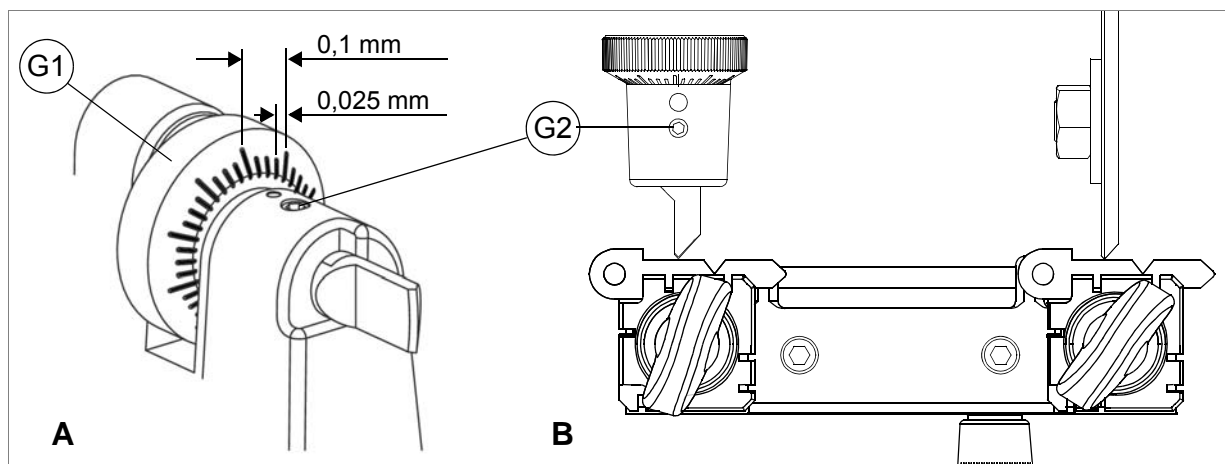
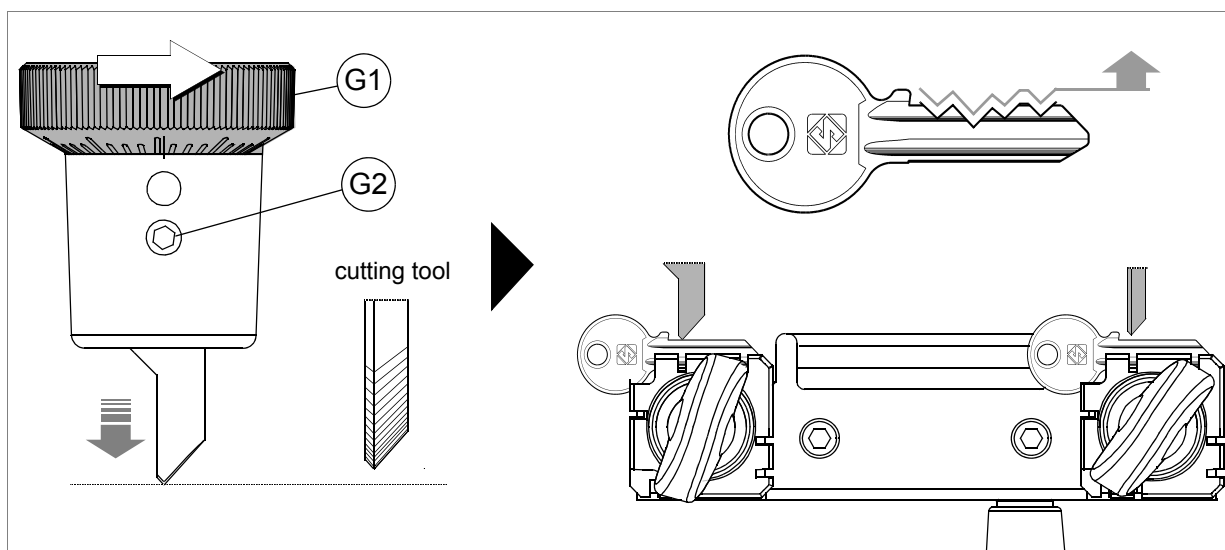

Fig. 15
Fig. 16
- 6) Raise the carriage and take up to the cutting tool (fig. 15).
- b) turn the ring nut (G1) clockwise to advance the tracer point (fig. 15 and fig. 16).
ATTENTION: each notch on the centesimal ring corresponds to 0,025 mm (fig. 15-A).